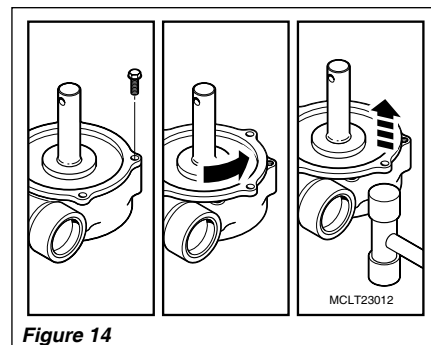

Figure 14
3. Turn gear case side plate to break the seal and lift the plate from the gear case. See Figure 14.